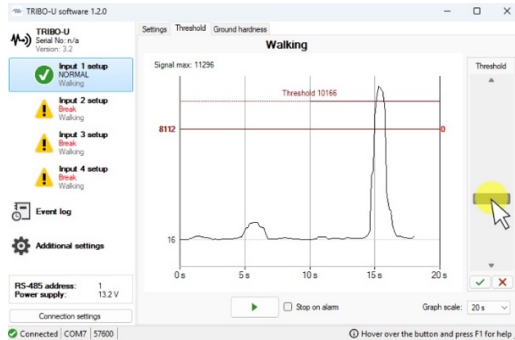

Fig. 22
- With the slider on the right side of the program set the calculated threshold value. (Fig. 22)